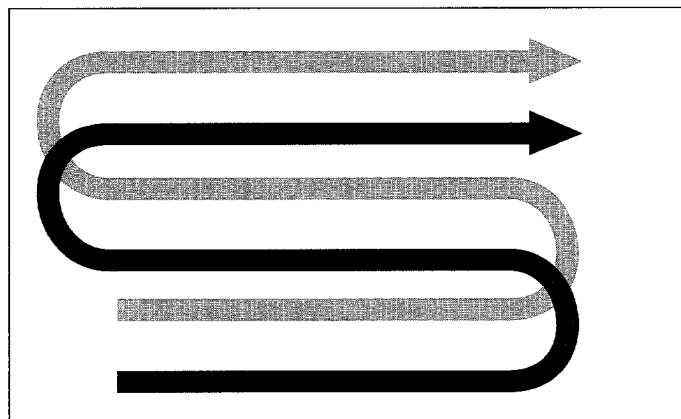

Figure 12: Use an overlap technique on every pass.
- When preparing a seedbed, go over the same path twice in the first row, then overlap one-half (1/2) the machine width on each succeeding pass (see Figure 12).